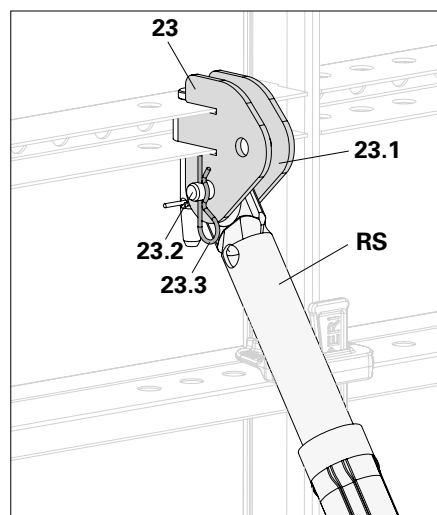

Fig. A6.04
- Connect Push-Pull Prop (RS) and connection lugs (**23.1**) with bolts (**23.2**) and cotter pins (**23.3**). (Fig. A6.04)